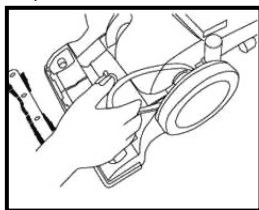

Fig. 22
13. Loop the new belt first over the motor drive shaft and then over the agitator pulley on the agitator. (Fig. 22)